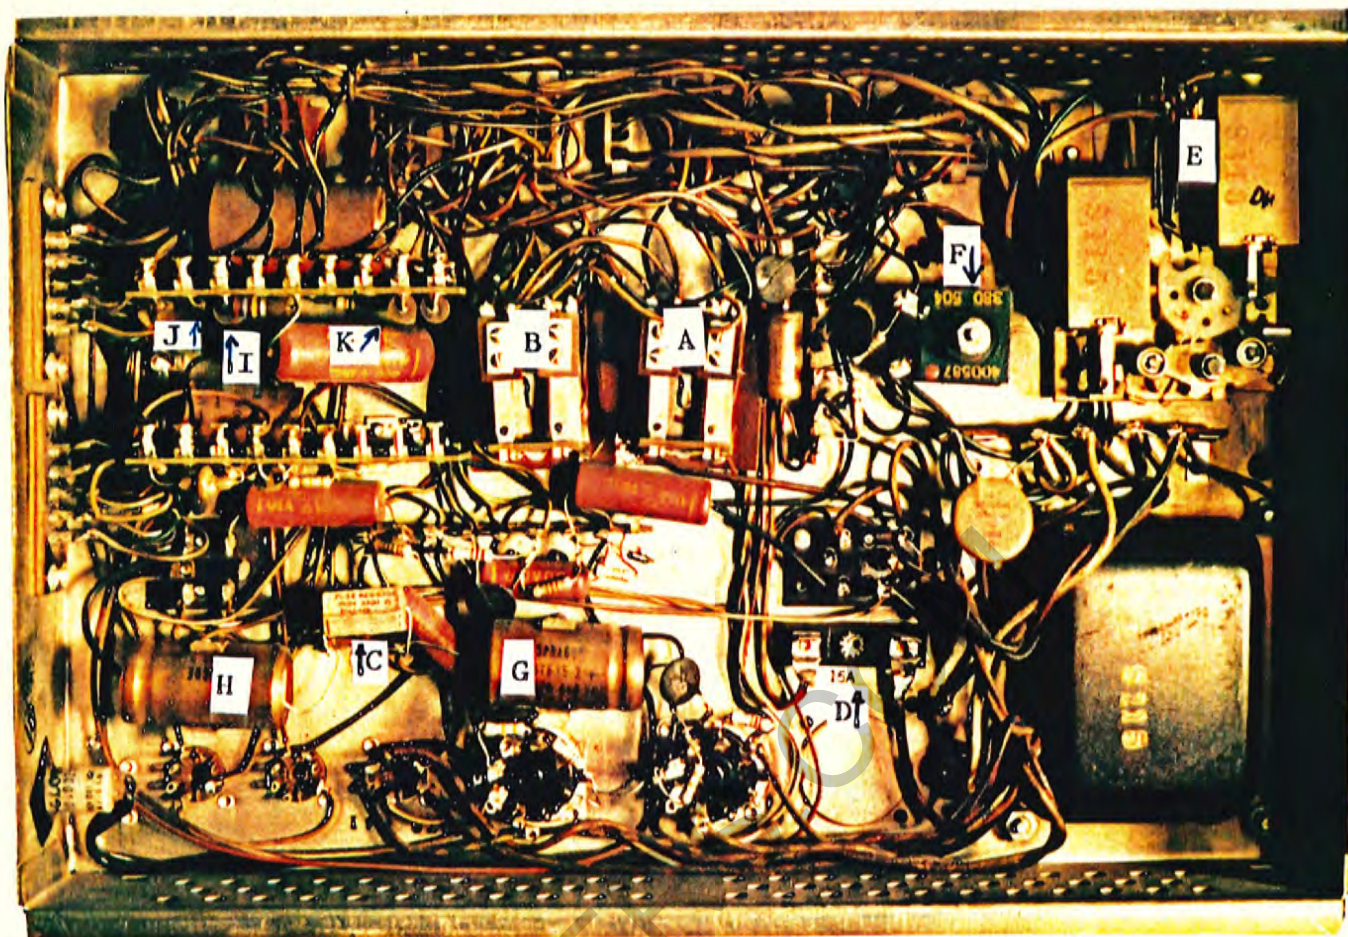

FIG 2 TCC1 ELECTRONICS
4. SHOULD THE ABOVE TESTS NOT ALTER THE TROUBLE SYMPTOMS, OBSERVE THE ACTION OF THE LEFT AND RIGHT SIDE TRIP RELAYS (FIG. 2). AS THE MACHINE REACHES THE SELECTED RECORD, A8 AND B8 IN OUR EXAMPLE, THEY SHOULD BOTH SIMULTANEOUSLY ACTIVATE. THE LEFT SIDE RELAY WILL RELEASE AS SOON AS THE MECHANISM STARTS RECORD TRANSFER (LEFT SIDE). NOTE THAT THE RIGHT SIDE TRIP RELAY MUST STAY ACTIVATED DURING THE ENTIRE DURATION OF LEFT SIDE PLAY, IF BOTH SIDES OF THE SELECTION WERE SELECTED AT THE SAME TIME. IF THE RIGHT SIDE RELAY SHOULD FAIL TO DO SO, YOU CAN TEST IT BY MAKING THE LEFT SIDE SELECTION ONLY (A8 ONLY) AND LETTING THE MACHINE PLAY IT AND THEN MAKING THE RIGHT SIDE SELECTION (B8 ONLY) TO SEE IF IT WILL PLAY THE RIGHT SIDE. IF THIS SEQUENCE WORKS OK (AND IN MOST CASES IT WILL), THE PROBLEM IS VERY LIKELY IN THE HOLDING CONTACTS OF EITHER THE LEFT SIDE RELAY OR THE PLAYING MECHANISM.
WE ARE NOW GETTING INTO AN AREA WHERE FAMILIARITY WITH SCHEMATICS CAN BE OF GREAT HELP. HOWEVER, A LOT OF PROBLEMS CAN BE SPOTTED BY VISUAL INSPECTION. SUCH ITEMS AS BURNED RESISTORS AND LEAKING CAPACITORS CAN EASILY BE SEEN. THESE TESTS ARE DONE WITH NO POWER CONNECTED TO THE CONTROL CENTRE. REFER TO FIG. 2 FOR THE FOLLOWING ITEMS: